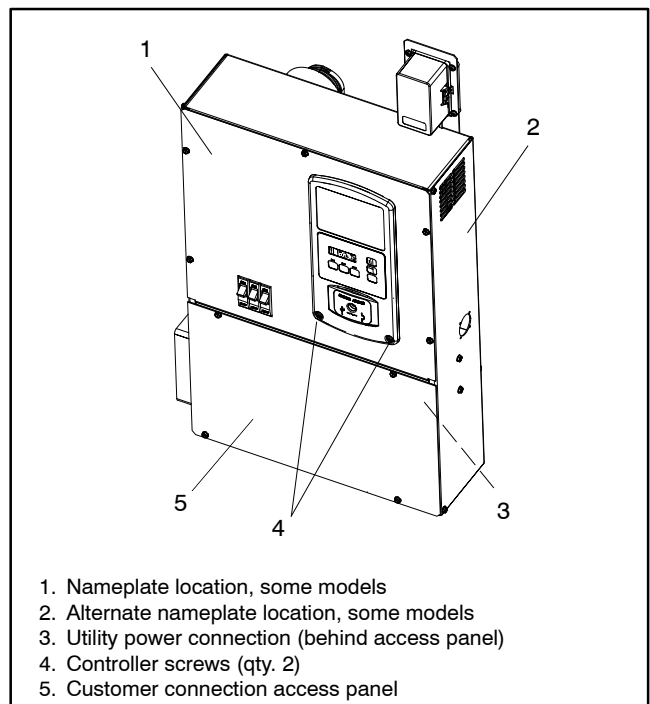

Figure 25 Controller and Access Panel, Typical RCL
6. Remove the customer connection access panel and use a voltmeter to confirm that utility power has been disconnected. See Figure 25 and Figure 26.
7. Remove the two (2) screws securing the controller to the junction box and *carefully* lift the bottom edge of the controller. See Figure 25.